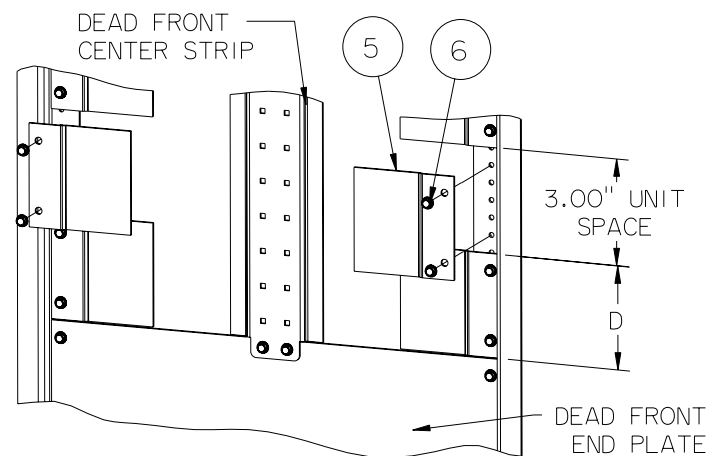

Figure 7
13. Refer to figure 7. - On P3 dead fronts only, install two dead front adaptor plates (item 5) on the outside edges of the kit dead front area, at the kit unit space locating dimension D, as shown. Fasten the plates to the dead front with four 8-32 screws (item 6).